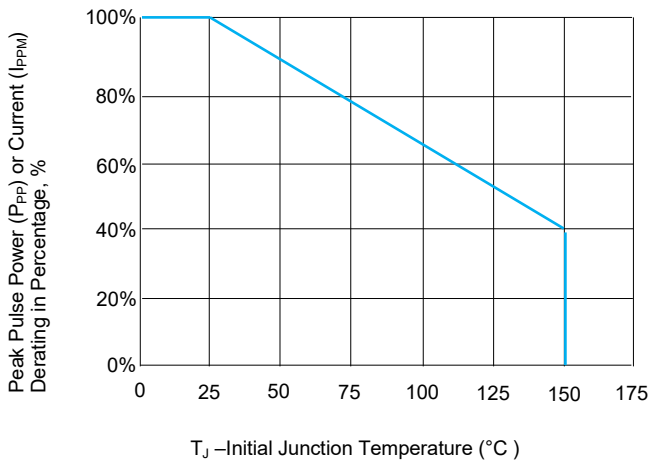
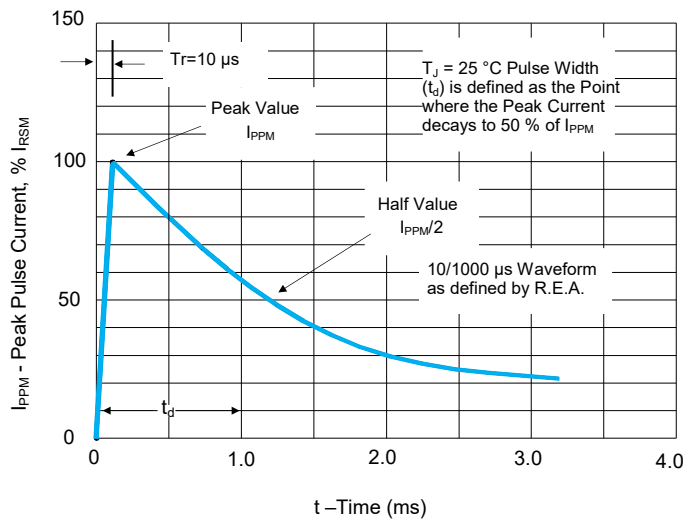

FIGURE 3 Peak Pulse Power Derating Curve
FIGURE 4 Pulse Waveform - 10/1000  $\mu\text{s}$
1. Non-repetitive current pulse, per Fig. 4 and derated above TJ(initial)=25 °C per Fig. 3.